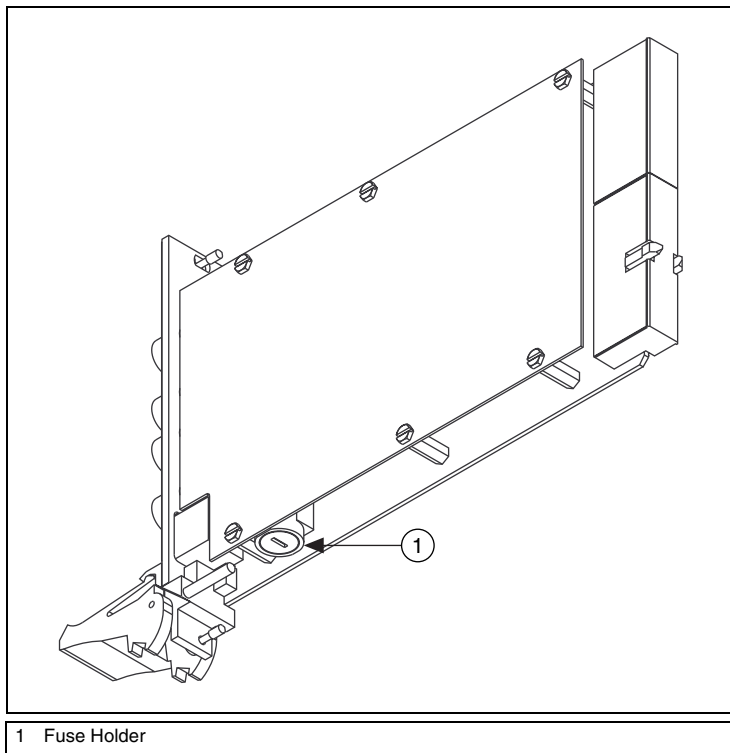

Figure 15. Removing the Fuse from the NI PXI-4060
- 3. Hold the device at the angle shown in Figure 15, and locate the fuse holder.